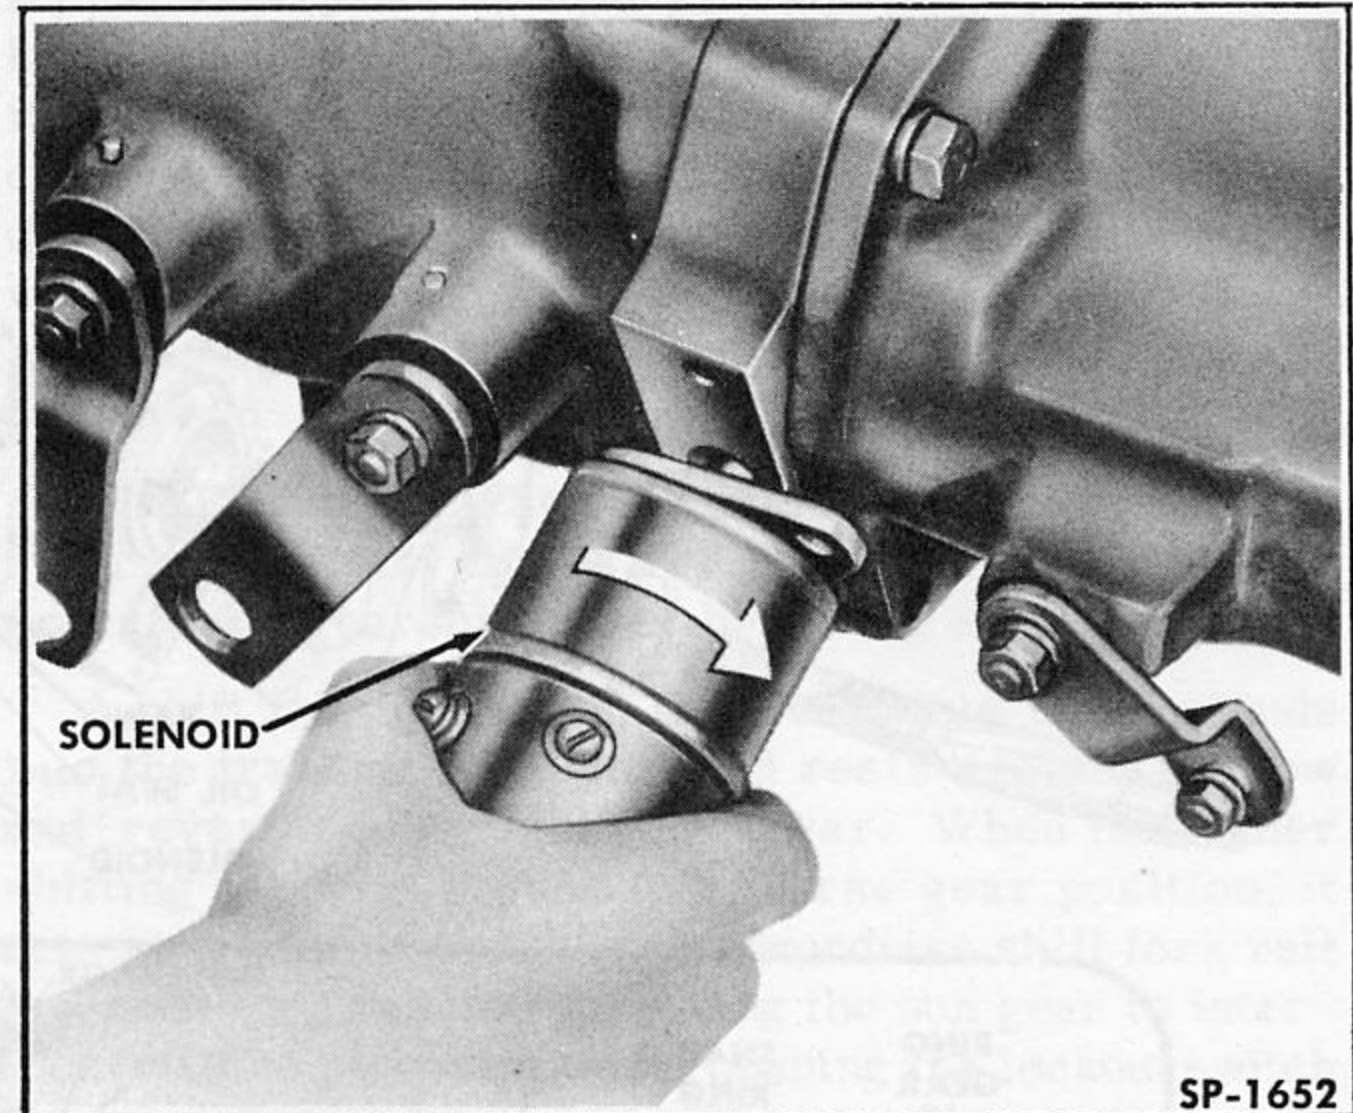

Fig. 147—Removing Overdrive Solenoid
4. Remove overdrive solenoid attaching bolts and washers. Rotate solenoid clockwise 45 degrees to disengage plunger from pawl and remove solenoid (Fig. 147).